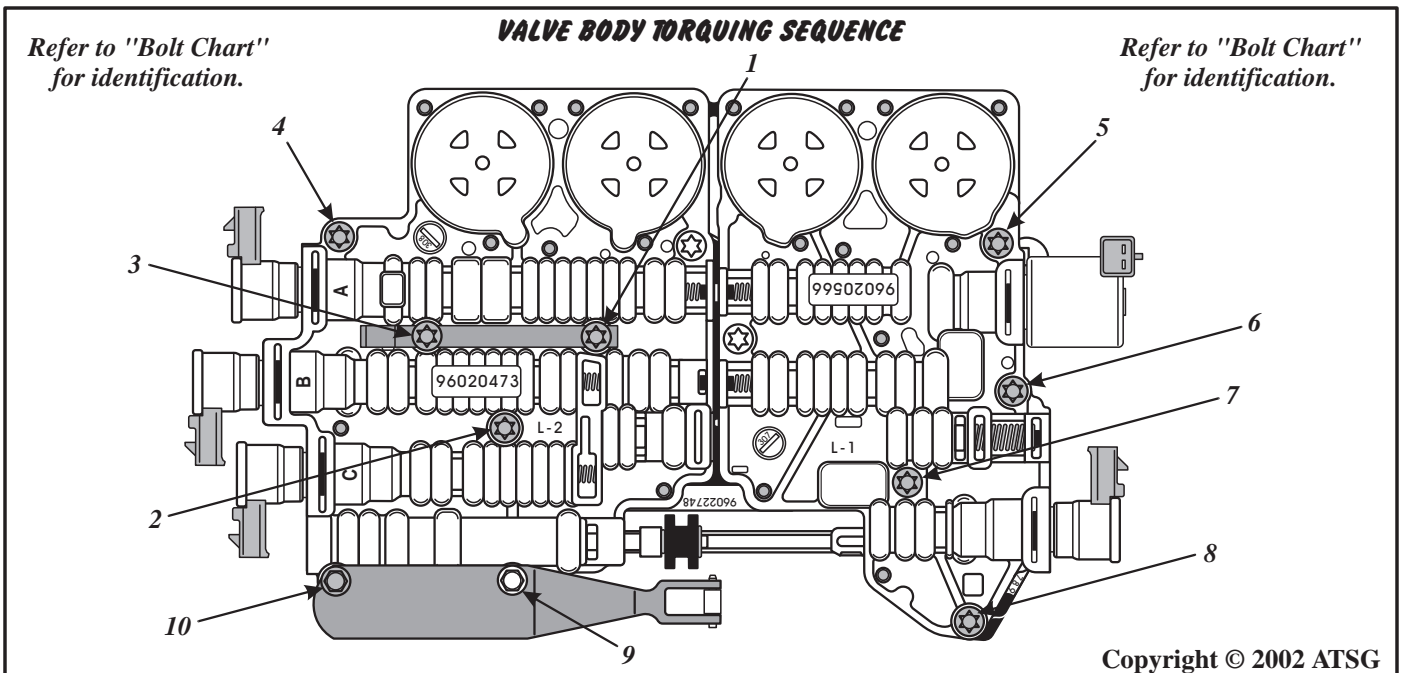

Figure 201
8. Torque all ten valve body bolts, in the exact sequence shown in Figure 201, down to 11 Nm (8 ft.lb.).